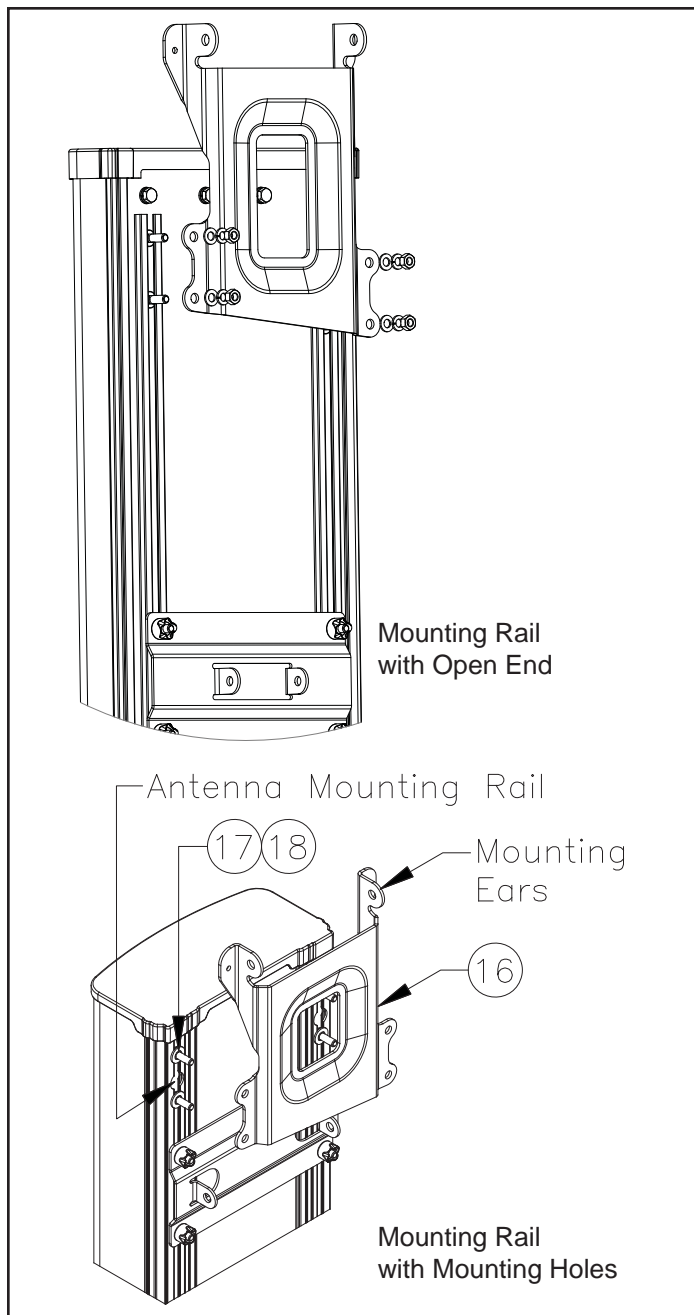

Figure 8. Inserting Carriage Bolts into Mounting Rails and Positioning Top Mounting Plate for Type 2 Antennas.
1. Insert the M8 SST carriage bolts (Item 18 in Figure 8) into the antenna mounting rails and slide them into position. Place an M10 SST washer (Item 17 in Figure 8) on each M8 carriage bolt.